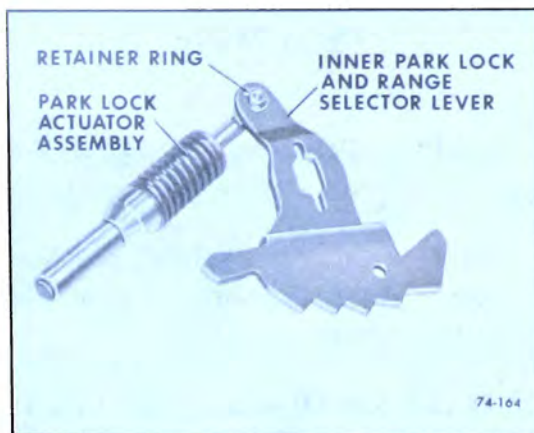

Figure 74-281
4. Assemble park lock actuator assembly to inner park lock and range selector lever. See Figure 74-281.